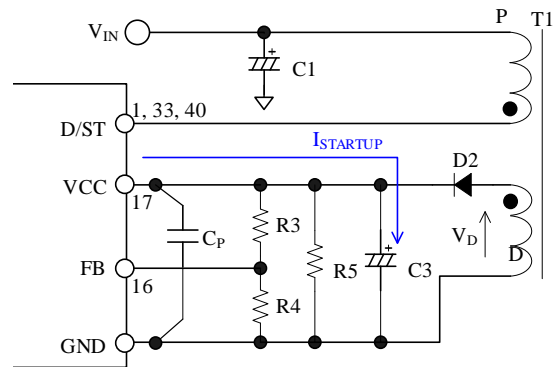

Figure 9-2. VCC Pin Peripheral Circuit
The IC incorporates the startup circuit. The circuit is connected to the D/ST pin. When the power supply voltage, V_{IN} , is applied, the internal startup circuit is activated. Then, the constant current, $I_{STARTUP} = 2.5 \text{ mA}$, charges electrolytic capacitor, C3, connected to the VCC pin. When the VCC pin voltage increases to $V_{CC(ON)} = 15.3 \text{ V}$, the control circuit starts operation. After the IC starts switching operation, the VCC pin voltage is the rectified auxiliary winding voltage, V_D , as shown in Figure 9-2.
When the voltage is detected by the auxiliary winding as shown in Figure 9-2, adjust the winding turns of D so that the VCC pin voltage becomes in the range of Equation (2).